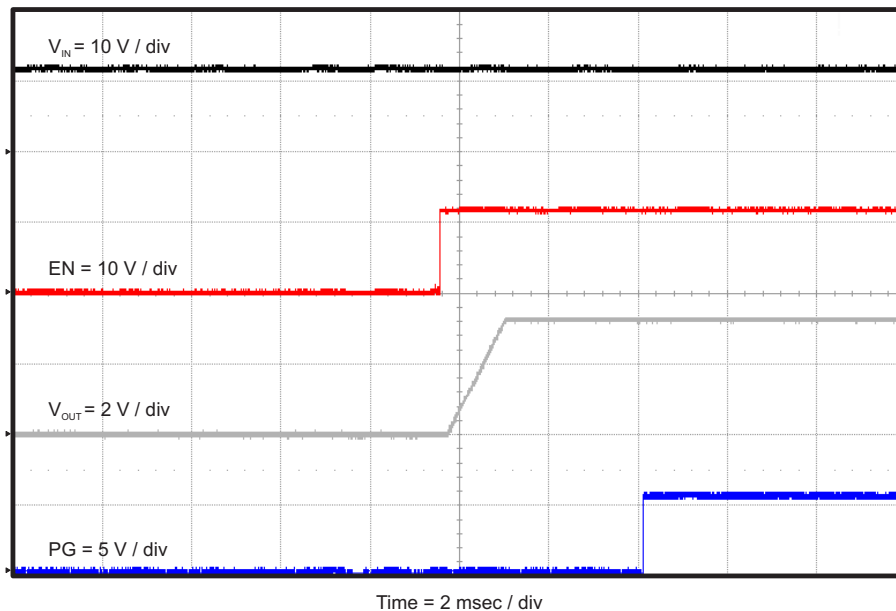

Figure 12. TPS65581EVM-575 CH1 Start-Up Relative to EN
The TPS65581EVM-575 start-up waveform for CH1 relative to enable (EN) is shown in Figure 12. Load = 4 Ω resistive. The start up waveforms for CH2 and CH3 are similar and not shown.